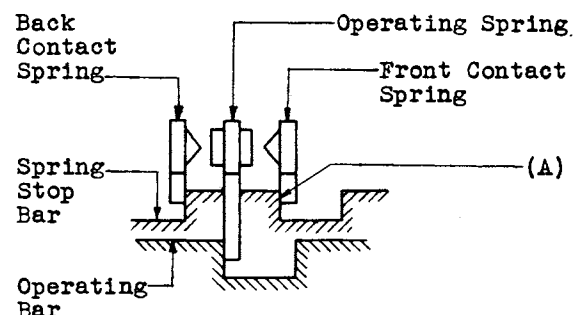

Fig. 13
- 2 - Fig. 13 (A) - Front Contact Spring Tang against the side of the notch in the spring stop bar nearer the cam roller shall be